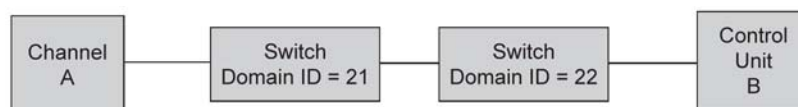
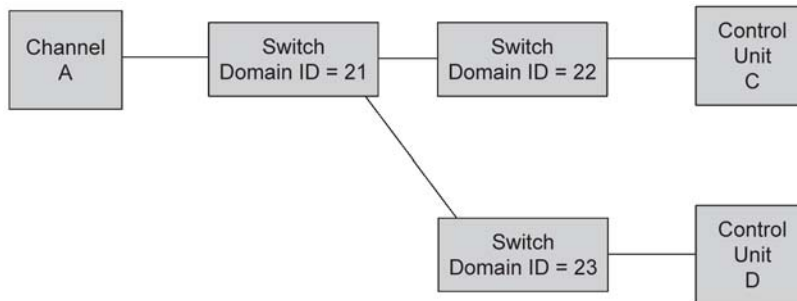

FIGURE 388 Cascaded configuration, two domains
FIGURE 389 Cascaded configuration, three domains, but only two in a path
- Cascaded configurations, also called high integrity fabrics, connect host channels and storage control units that reside in different domains. Cascaded FICON fabrics must be configured as high integrity fabrics. In this type of configuration, the channel is configured to use two-byte link addressing. Figure 388 and Figure 389 are examples of cascaded FICON configurations. IBM does not support configurations that have more than two domains in a path from a FICON Channel interface to a FICON Control Unit interface to Channel-to-Channel (CTC) except under special circumstances.